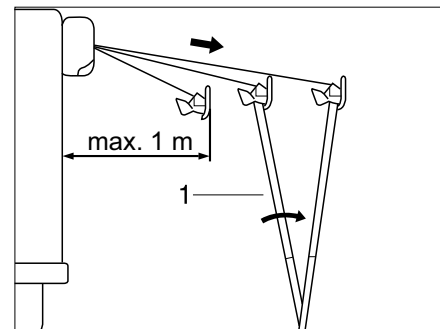

Fig. 41 Putting up the awning
- Fold out the support legs (Fig. 41,1) and set them on the ground.